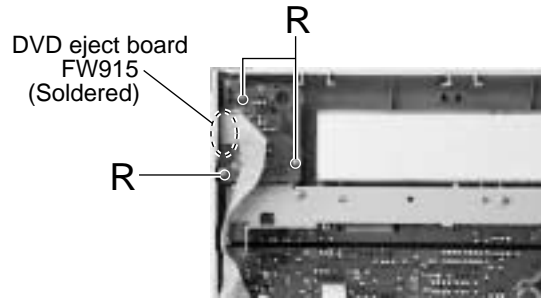

Fig.33
■Removing the DVD eject board (See Fig.33)